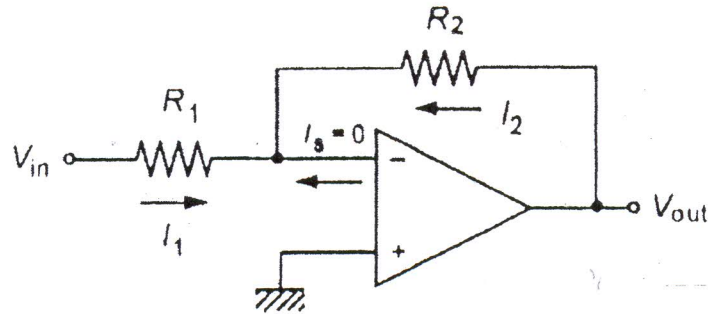

Figure 8: Inverting Amplifier Circuit
- (c) **Figure 8** shows an inverting amplifier circuit.
- ii. State the function of resistor R_1 in **Figure 8** (2 marks)
- iii. State **two (2)** types of Op-Amp other than non-inverting amplifier and inverting amplifier (2 marks)